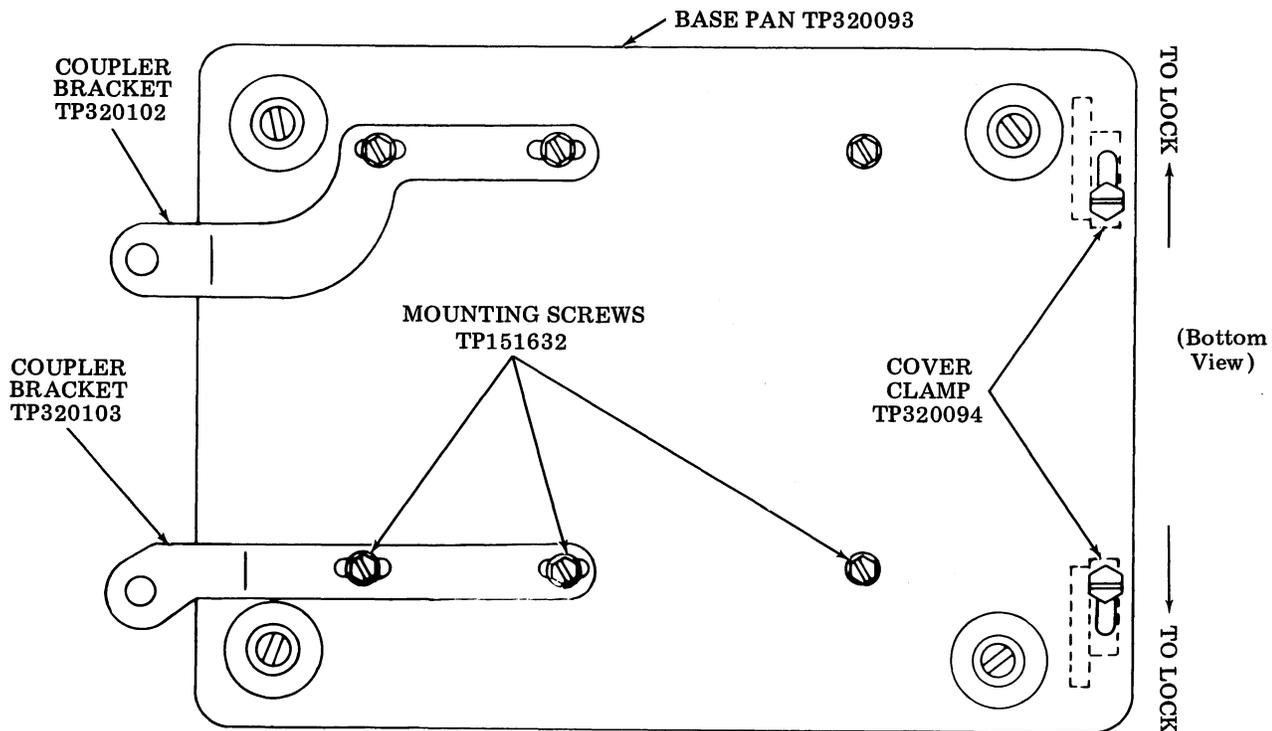

Figure 4 - Feeder Base Pan and Coupler Brackets
- (a) Attach the TP320102 and TP320103 coupler brackets to the feeder base pan as shown in Figure 4. Use the four TP151632 screws, TP2191 lockwashers, and TP7002 flat washers already attached to the base pan. Set the brackets to the center of their adjusting range and tighten the screws friction tight.
(a) Attach the TP320102 and TP320103 coupler brackets to the feeder base pan as shown in Figure 4. Use the four TP151632 screws, TP2191 lockwashers, and TP7002 flat washers already attached to the base pan. Set the brackets to the center of their adjusting range and tighten the screws friction tight.